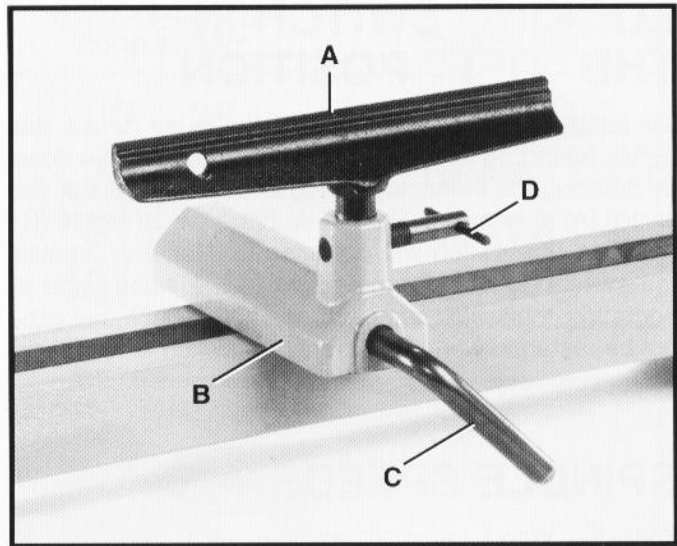
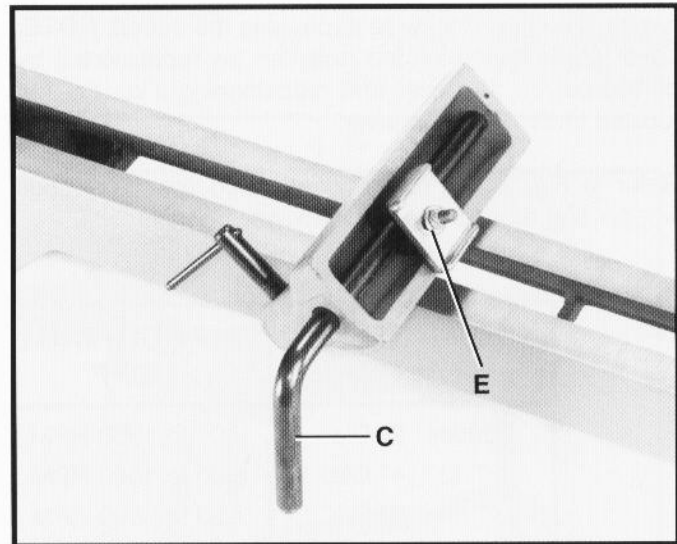

Fig. 26
Fig. 27
The tool rest (A) and tool rest base (B) is shown in Fig. 26. To position the tool rest on the lathe bed, lift up clamp handle (C), move the tool rest base to the desired position and lock in place by pushing down on handle (C). To adjust the tool rest (A) for the correct height, loosen locking lever (D), move tool rest (A) up or down and tighten locking lever (D). **NOTE:** Locking lever (D) Fig. 26 can be positioned on the left or right side of the tool rest base (B). To reposition the tool rest locking lever (D), turn lever counterclockwise as far as it will go. A threaded hole is provided in the left side of tool rest base (B) to accept the locking lever (D) if desired. Clamping action on clamp handle (C) Fig. 27, can be adjusted by removing the tool rest base from the lathe bed and tightening or loosening nut (E) as necessary.